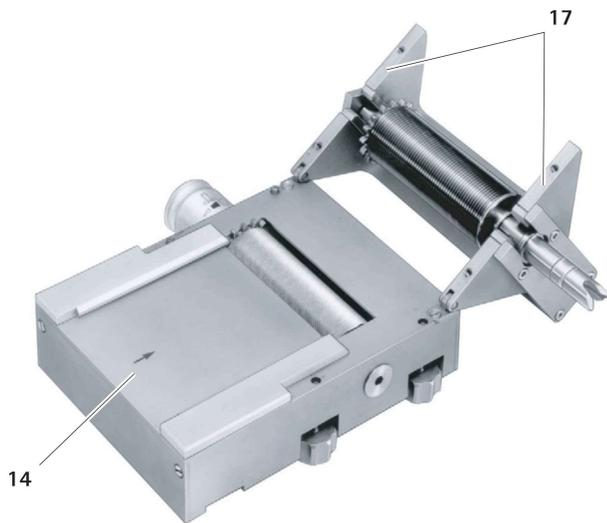

Fig. 2
- ▶ Open upper part 17, see Fig. 2.
- ▶ Close upper part 17 on lower part 14, see Fig. 2.